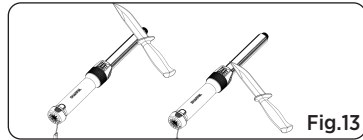

Fig.13
2. When the blade reaches the top of the leather strop, flip it over to strop the other side. The cutting edge should face the top of the strop. **PULL** the blade **TOWARD** the handle to strop the entire cutting edge (See Fig. 13).